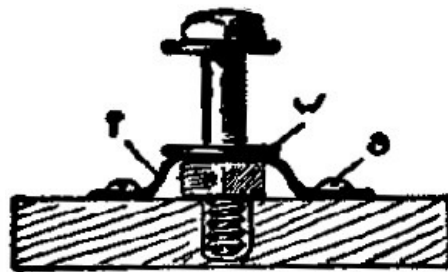

Fig. 62.
**117. Electro-Magnet Core.** Fig. 62. This shows another method of fastening a bolt-core in an upright position. This is done without the use of two nuts. A strip of tin, *T*, 1 in. wide, is punched and slipped onto the  $\frac{5}{16}$  bolt before the nut is screwed on and the coil wound. This is fastened to the base by screws, *S*. Washers, *W*, are here shown. (See § 119 for washers.)